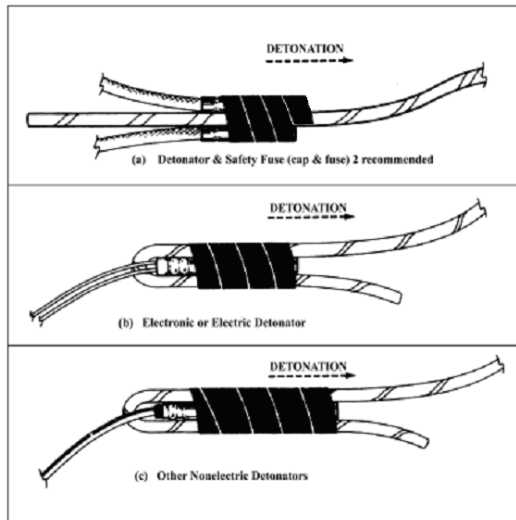

Figure 9: Methods for attaching detonators to detonating cord
- ALWAYS** point the detonators toward the direction of detonation – Figure 9.